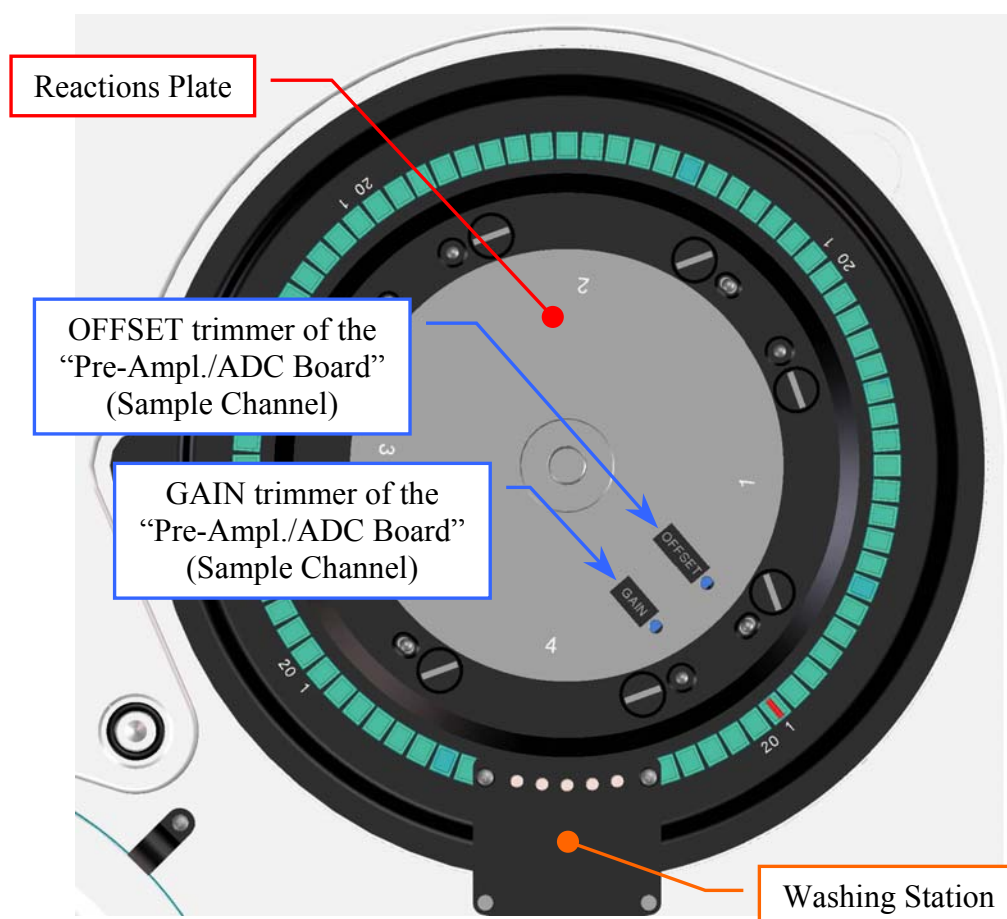

Fig. 53 – GAIN and OFFSET trimmers of the "Pre-Ampl./ADC Board" (Sample Channel)
8. Click the "Dark" button, click the "START Sample Channel Conversion" button and make sure that the adjacent text box shows a counts value equal to 100 ± 50 . If it not be so, turn the OFFSET trimmer of the "Pre-Ampl./ADC Board (Sample Channel)" in order to set the correct counts value (**Fig. 53**).
13. Make sure that the counts value of the filter which transmits the highest signal (for the Sample Channel) is between **58.000** and **62.000**. If it not be so, turn the GAIN trimmer of the "Pre-Ampl./ADC Board (Sample Channel)" in order to set the correct counts value (**Fig. 53**).